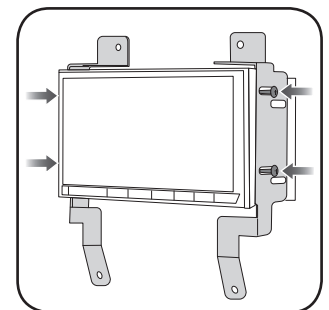

Fig. 3.8
9. Place the EDG2 radio brackets on to the aftermarket radio and secure with the hardware provided with the radio. (Fig. 3.8)